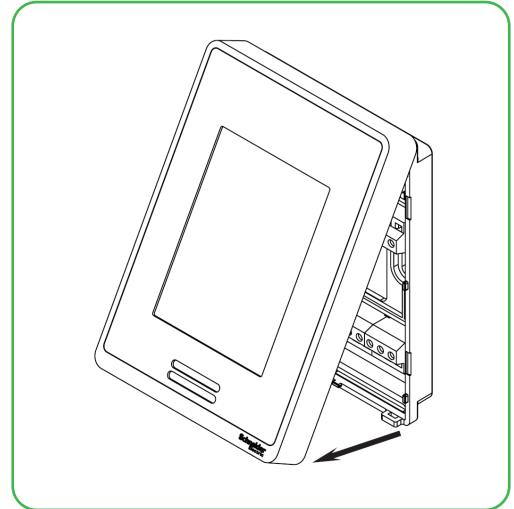

Figure 1 Open cover
2. Open unit by pulling on the bottom side of the Room Controller (Figure 1).